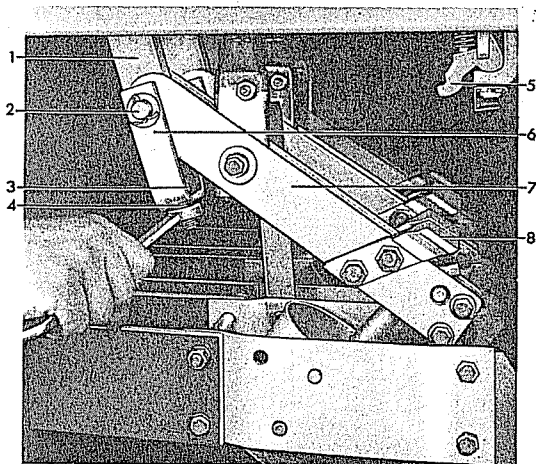
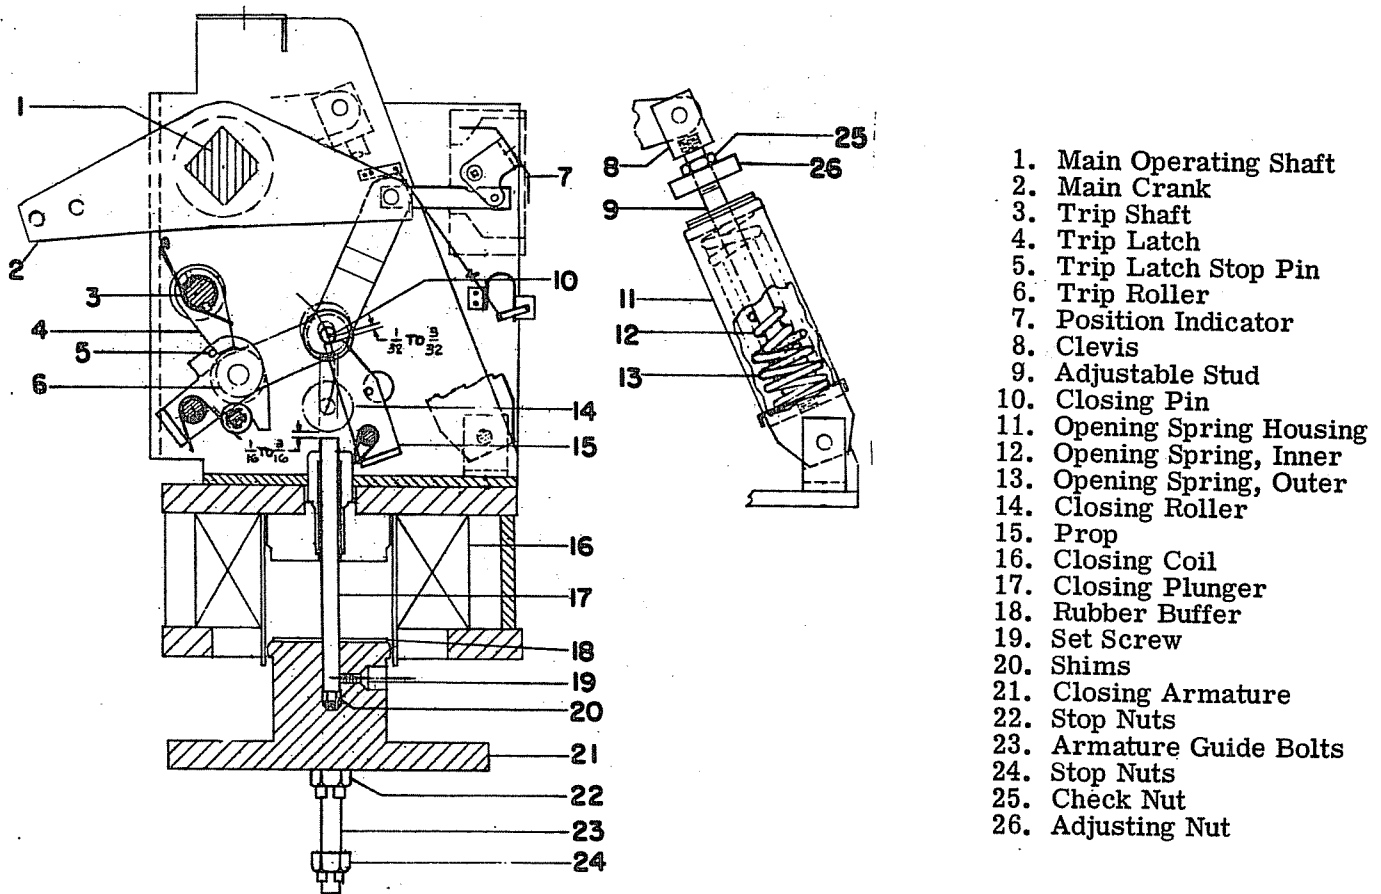

Figure 3 (8039618) Adjustable Coupling For Making Primary Contact Wipe Adjustments
Figure 9 (0962C0772) Cross Section of MS-13 Mechanism in closed position
Refer to Figure 8. With the breaker closed, press the manual trip button allowing the breaker to trip open normally. Do not force the contacts open wider by hand. The gap between the stationary primary contacts (5) and the movable primary contact (8) measured between the closest points, should be $3-5/8"$ to $3-15/16"$. To change this gap, loosen the check nut (25) Figure 9, and turn the adjusting nut (26) on stud (9). Screwing the adjusting nut down will decrease the primary contact gap. Tighten the check nut and re-measure the contact gap (close and trip the breaker before checking the measurement). Whenever the primary contact gap is changed, the primary contact wipe should be rechecked and, if necessary, readjusted.
Refer to Figure 9. The wipe of the trip latch (4) on the trip roller (6) should be from $3/16"$ to $1/4"$. This can be measured by putting a film of grease on the latch, closing the breaker part way, and tripping. The mechanism has the proper trip latch wipe when the latch rests against the stop pin (5). No adjustment is provided and a visual inspection is usually all that is required. If this setting is not correct, look for insufficient travel of the trip shaft (3).
Refer to Figure 9. With the breaker closed as far as possible with the maintenance device, the clearance between the closing pin (10) and the prop (15) should be $1/32"$ to $3/32"$. Measure the prop clearance with a feeler gauge to determine whether or not an adjustment should be made, and if so, exactly how much adjustment will be required. To make the adjustment, it will first be necessary to open the breaker and remove the maintenance operating device. Remove the stop nuts (22 and 24) being careful not to drop the armature (21). Lower the armature from the mechanism and remove the two set screws (19). Remove the closing plunger (17) from the armature and add or subtract the necessary thickness of shims (20) to give the required adjustment, then replace the closing plunger, screwing it down against the shims. Using a small drill, spot the closing plunger through the set screw hole. Replace the set screws. Remount the armature on the breaker. After reassembly, remount the maintenance closing device and check the adjustment.
Refer to Figure 9. With the breaker in the open position, the clearance between the closing plunger (17) and the closing roller (14) should be $1/16"$ to $3/16"$. To obtain this clearance, the nuts (22) on the two armature guide bolts (23) may be raised
Referring to Figure 3, measure the overtravel of the two auxiliary switch plunger. Manually operate the control device by pressing the operating arm (6) the full extent of travel to the rear. With
Operate the solenoid armature plate (12) with the maintenance closing device. The control device plunger (9) should not travel more than $3/32''$ from the point where the control device trips until the prop (15) Figure 9 falls in place. The plunger should travel a minimum of $1/32''$ after tripping the control device. The control device arm (7) Figure 3 should have a minimum of $1/32''$ overtravel with the plunger fully raised by the armature plate.